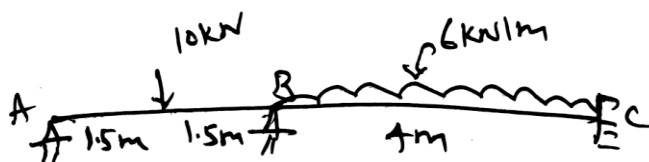

Fig Q7
- 7 Analyse the two spanned beam shown in Fig Q7, by flexibility matrix method. Draw BMD.